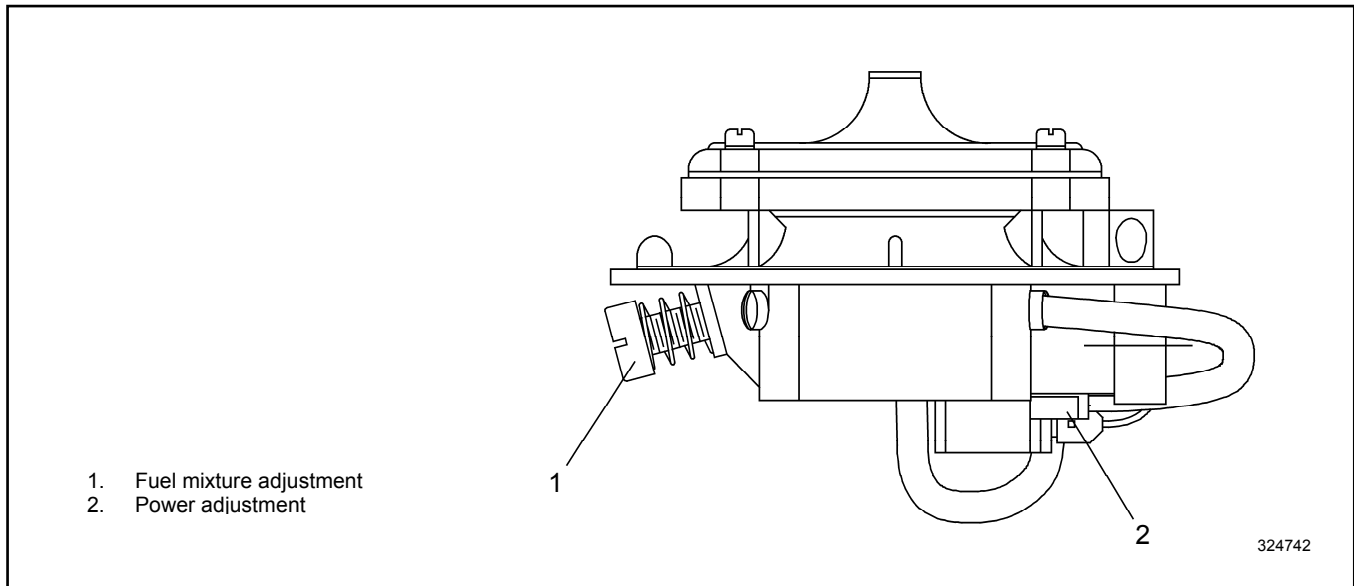

Figure 11 30-80 kW with Nolff NCA-225M and NCA-125M Style Fuel Mixers
Nolff NCA-225M and NCA-125M style fuel mixers used on early versions of 30-60 kW 4.3 L and 5.7 L GM engines, 30-60 kW LP liquid withdrawal systems, and 80 kW 8.1 L GM engines. See Figure 11.
5. Adjust the fuel mixture adjustment (Figure 11) to obtain a full-load oxygen sensor reading in the range specified in Figure 2.